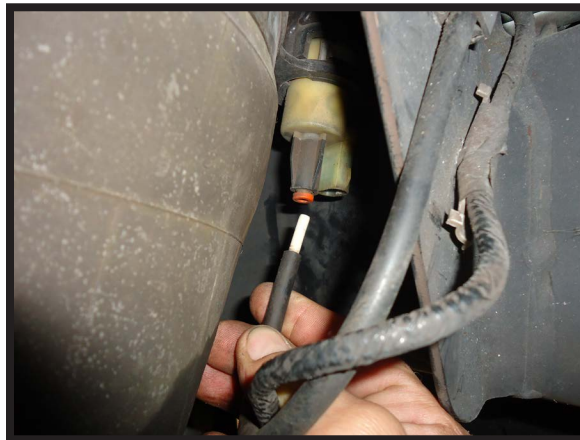

FIGURE 10-3
5. REMOVE THE AIR LINE FROM THE AIR SPRING'S SOLENOID. PUSH THE COLLAR INTO RELEASE AND PULL THE AIR LINE OUT. (FIGURE 10-3)